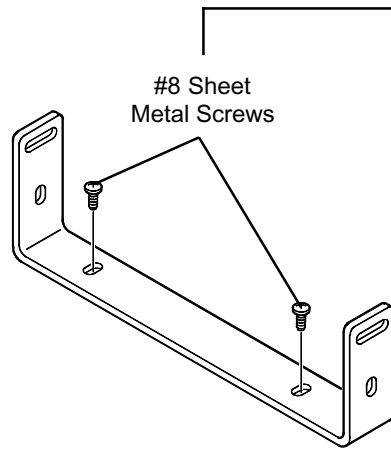

FIGURE 4
3. Install the mounting bracket with the sheet metal screws (Figure 4).